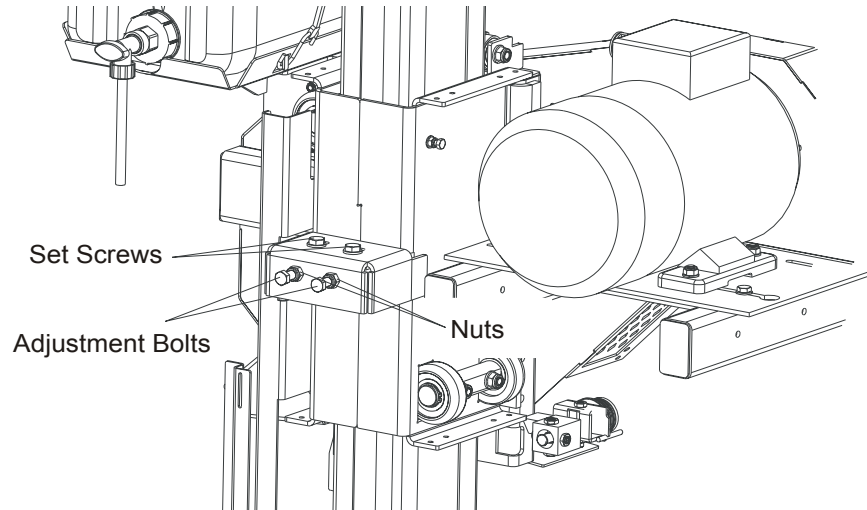
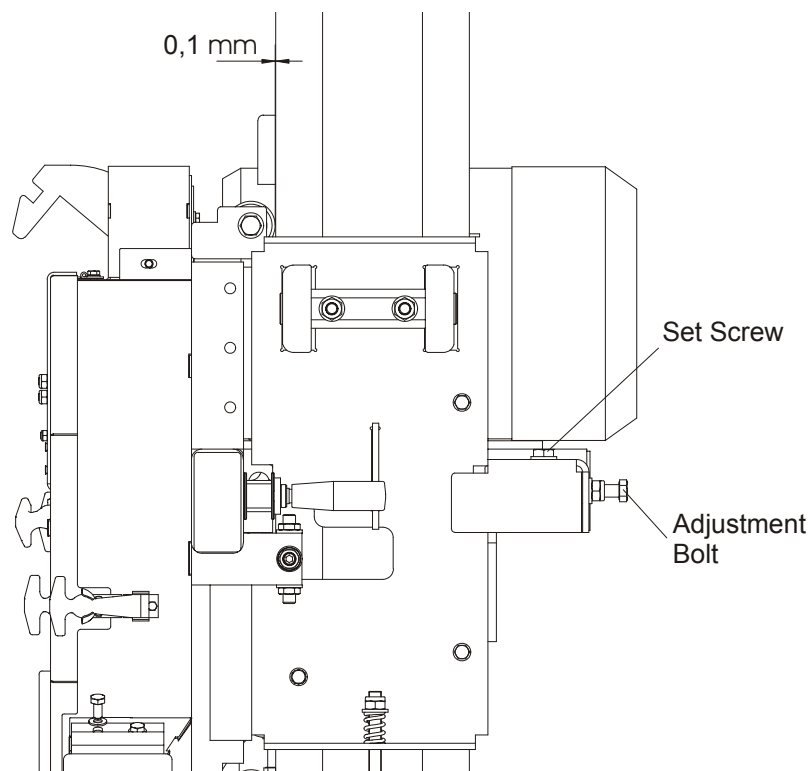

FIG. 5-18
FIG. 5-19
1. Loosen the nuts on the adjustment bolts and the set screws shown in Figure 5-18, adjust the mast guide rollers as shown in Figure 5-19.